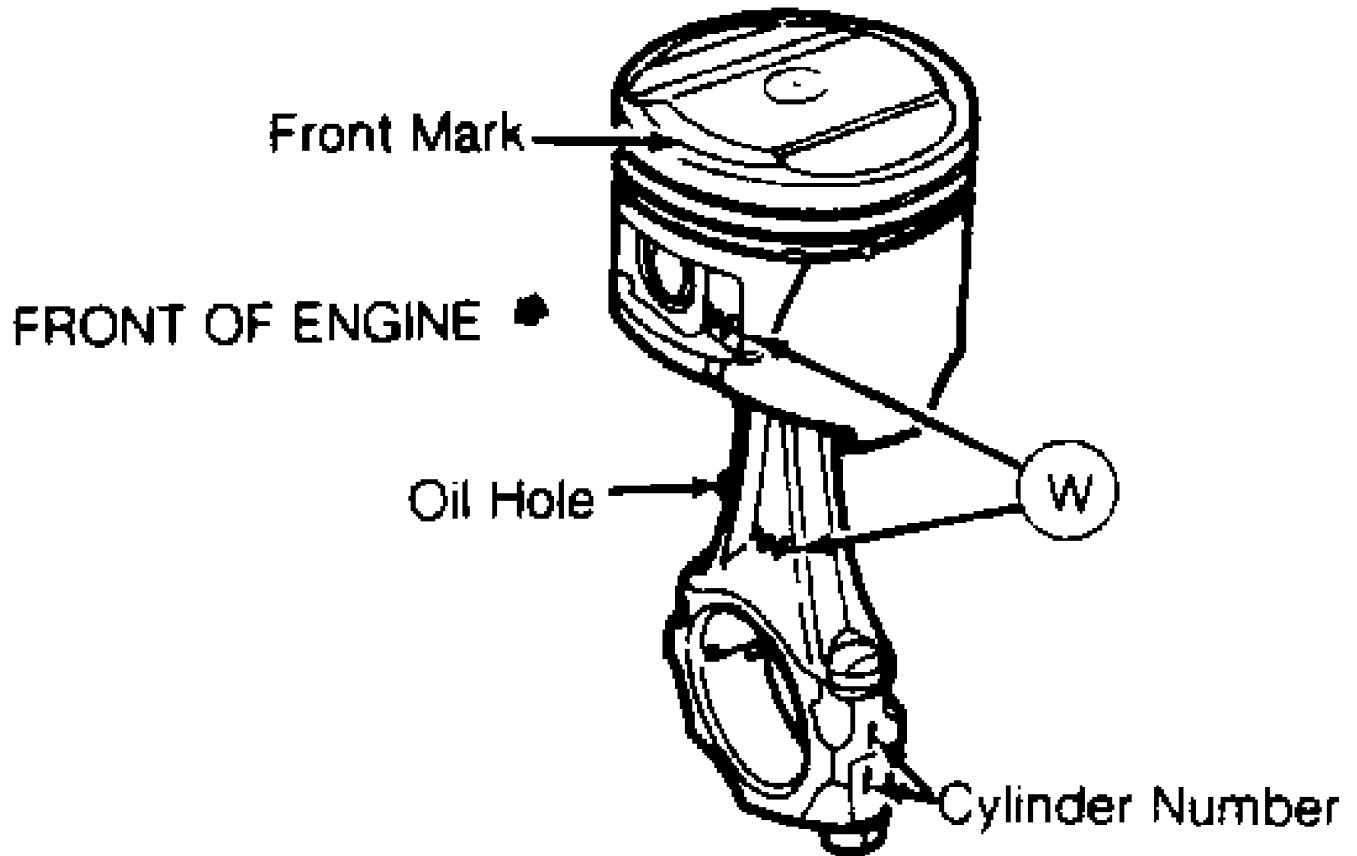

Fig. 17: Positioning Piston Assembly for Installation
4) Always install new snap rings inside piston pin bore. Install piston with front mark on piston toward front of engine. Oil hole in rod should be on opposite side of cylinder identification number. See Fig. 17. With piston/rod assembly installed, ensure rod is